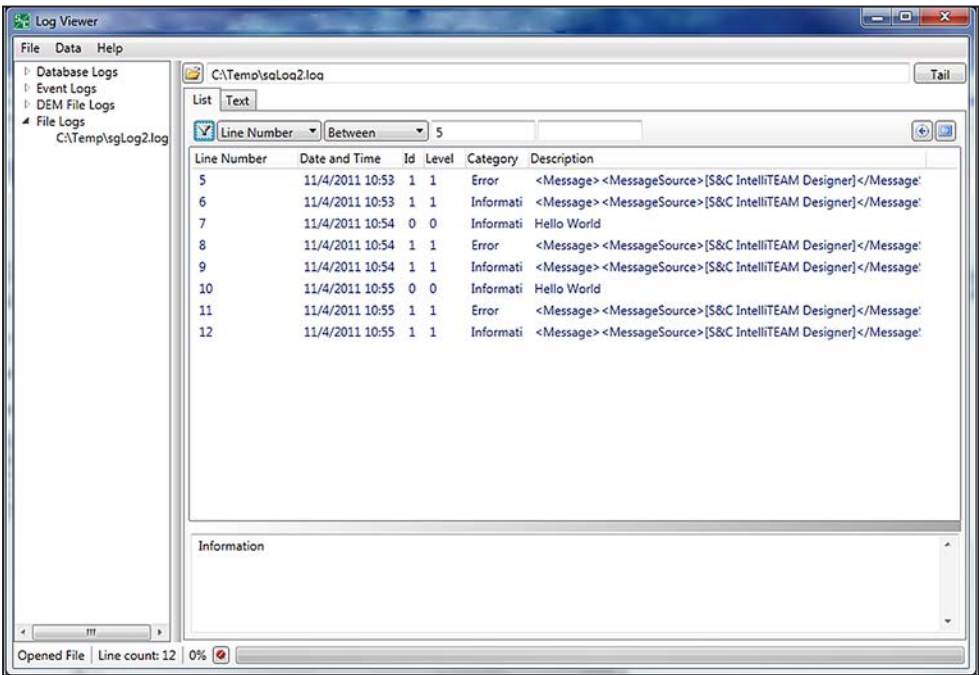

Figure 134. Data filtered to start at Line Number 5.
STEP 3. The line number can be filtered to start at #5. See Figure 134.